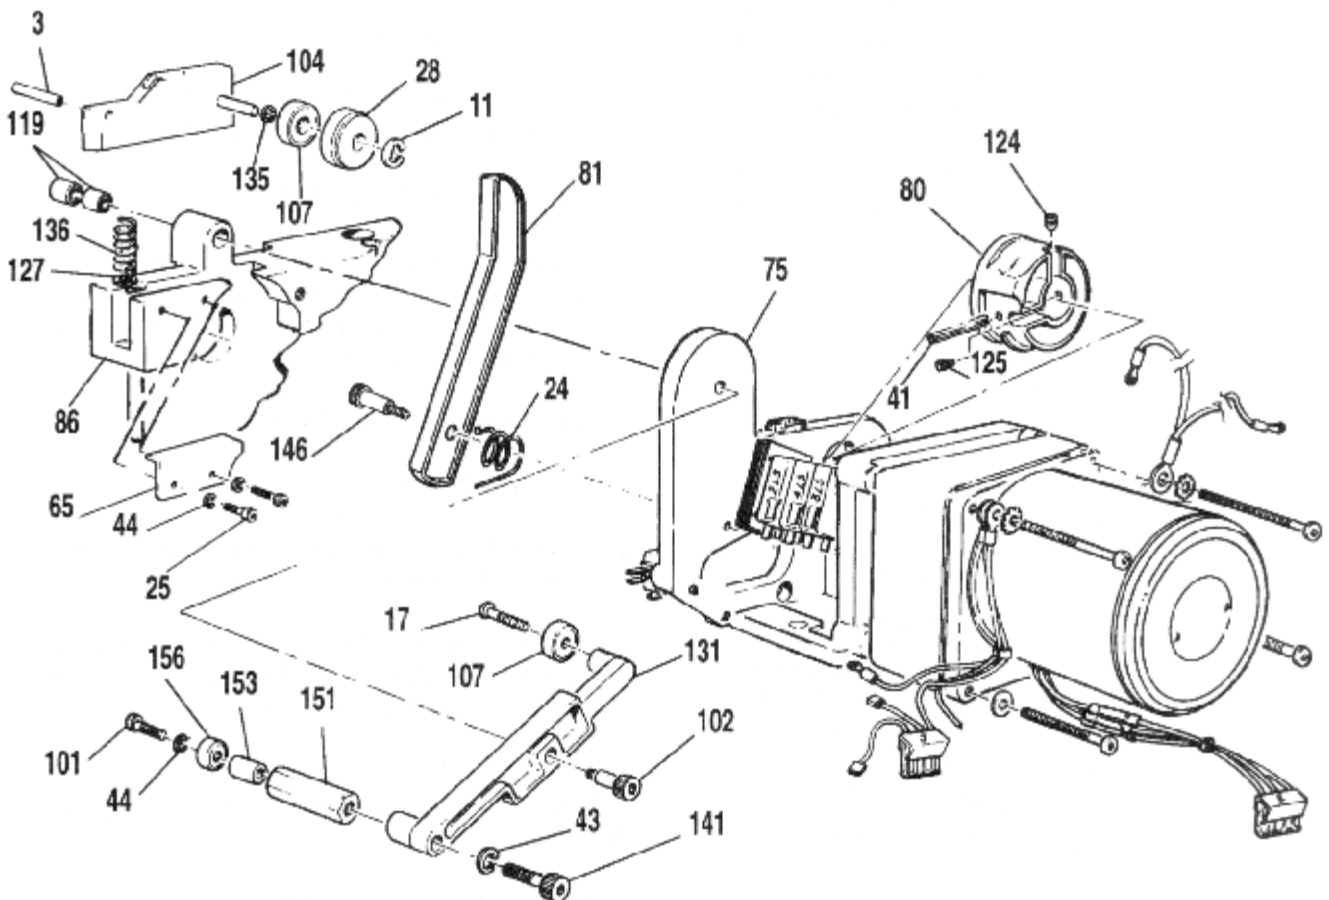

Figure 13 - Feed and Control Components
(Figure 13)
5. Press down on the back-up wheel bracket (104) while pulling the jammed strap back through the machine. If these steps fail, then proceed further.
NOTE: At times it may also be required to remove the strap feed insert (65) as seen in Figure 13.